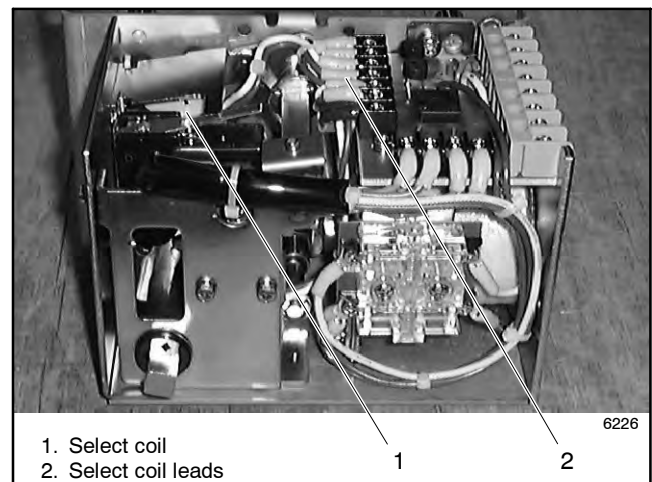

Figure 7-17 Select Coil Connections
1. Note connections and disconnect select coil leads. See Figure 7-17. Cut the cable tie, if necessary.